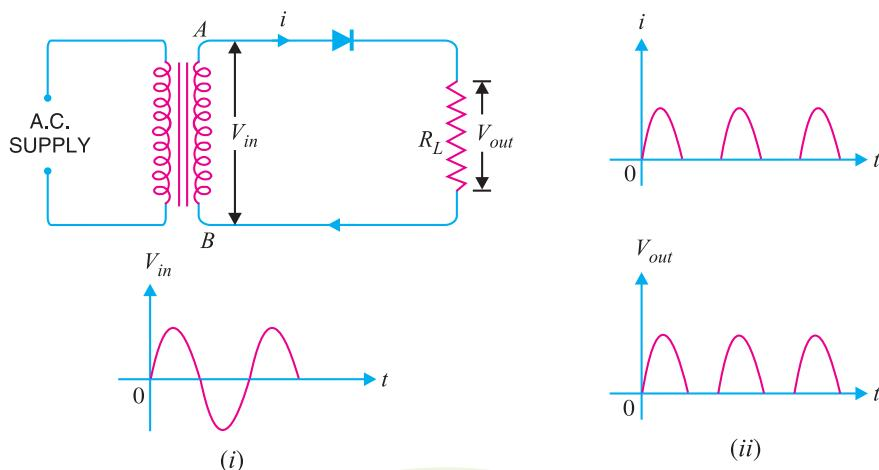

Fig. 6.20
**Circuit details.** Fig. 6.20 shows the circuit where a single crystal diode acts as a half-wave rectifier. The a.c. supply to be rectified is applied in series with the diode and load resistance  $R_L$ . Generally, a.c. supply is given through a transformer. The use of transformer permits two advantages. Firstly, it allows us to step up or step down the a.c. input voltage as the situation demands. Secondly, the transformer isolates the rectifier circuit from power line and thus reduces the risk of electric shock.
**Operation.** The a.c. voltage across the secondary winding  $AB$  changes polarities after every half-cycle. During the positive half-cycle of input a.c. voltage, end  $A$  becomes positive w.r.t. end  $B$ . This makes the diode forward biased and hence it conducts current. During the negative half-cycle, end  $A$  is negative w.r.t. end  $B$ . Under this condition, the diode is reverse biased and it conducts no current. Therefore, current flows through the diode during positive half-cycles of input a.c. voltage only ; it is blocked during the negative half-cycles [See Fig. 6.20 (ii)]. In this way, current flows through load  $R_L$  always in the same direction. Hence d.c. output is obtained across  $R_L$ . It may be noted that output across the load is pulsating d.c. These pulsations in the output are further smoothed with the help of *filter circuits* discussed later.